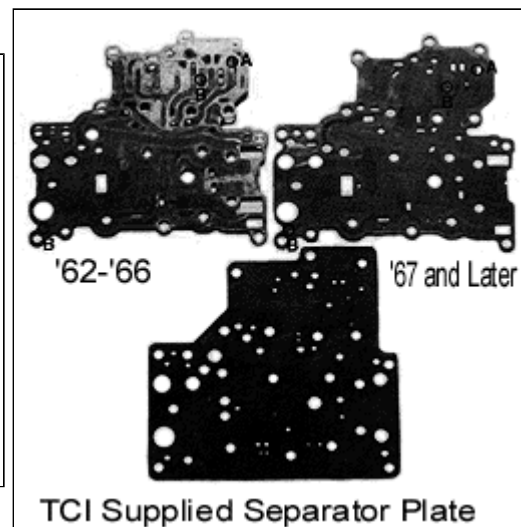

Figure 3
STEP 5 1962-1966 Valve Bodies: Compare your original separator plate (See Figure 3). If your original plate has hole "A", discard your original plate and use the new plate supplied. If your original plate does not have hole "A", enlarge 2 holes marked "B" with the 3/16" drill supplied in your original plate and re-use it.
1967-1 973 Valve Bodies: You **cannot** use the new plate supplied. Enlarge the 2 holes marked "B" in your original separator plate with the 3/16" drill supplied (See Figure 3). If you are re-using your original separator plate, deburr the holes after drilling. Carefully clean all old gasket material from the separator plate and wash it thoroughly in